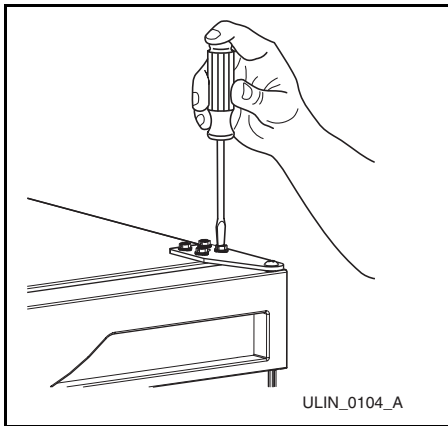

Figure 10
- Loosen (do not remove) top (**Figure 10**) and bottom hinge screws.